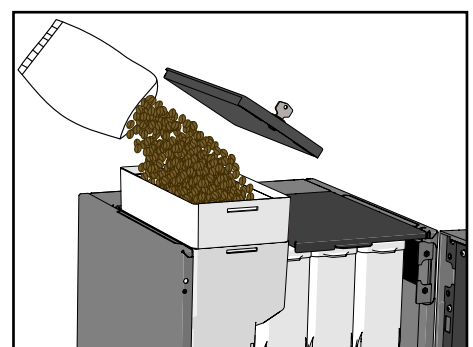

Figure 66.
2. Fill the canister with beans (see Figure 66).